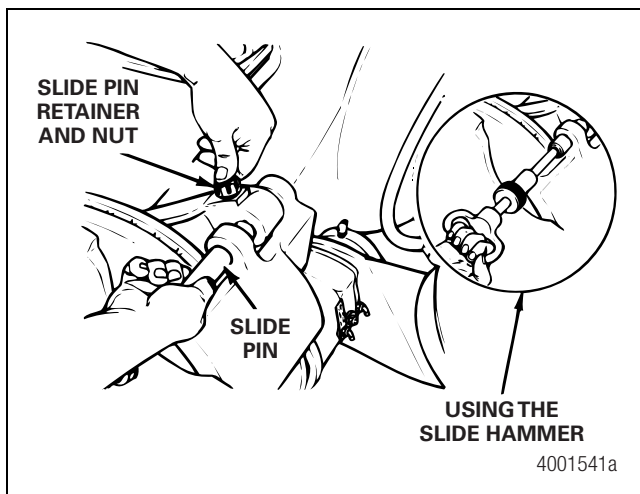

Figure 3.6
4. Push down the retainer and push in the slide pin. Figure 3.6. The retainer will snap out when the notches engage.